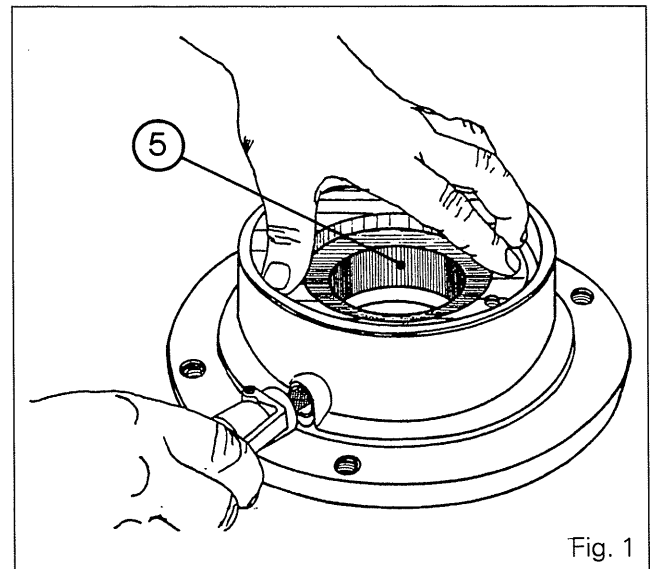

Fig. 1
5. Remove the bearing cup (12) and the deflector shim [11].
6. Remove the circlip (7).
7. Remove the piston (5) with a blast of compressed air (Fig. 1).
8. Remove the O-rings (3), (6) and (41).
9. Unscrew the finger (4) (if necessary).